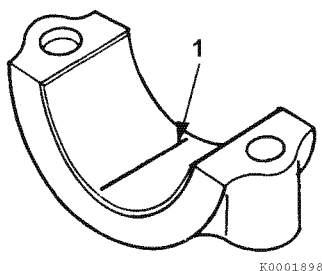

Figure 6-54
- Place a piece of PLASTIGAGE® (**Figure 6-54, (1)**) along the full width of the bearing insert.